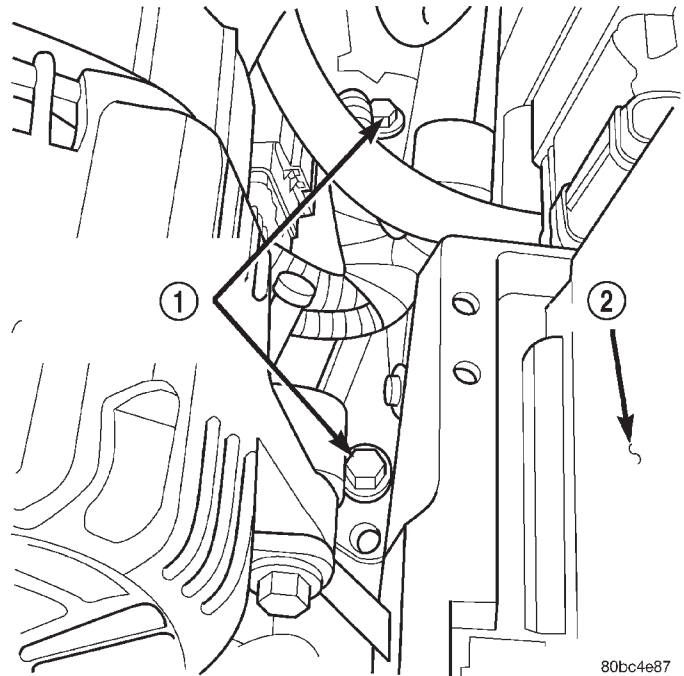

Fig. 22 Engine Mount Sill Plate Bolts - Leftside
(5) Install two engine to transmission bellhousing retaining bolts. One on each side of the bellhousing.
(6) Make certain the engine mount sill plate bolt holes are aligned with their corresponding weld nuts in the frame rails.
(7) Remove the engine lifting device.
(8) Remove the jack from the transmission.
(9) Install the leftside engine mount sill plate retaining bolts (Fig. 22). Leave bolts loose at this time.